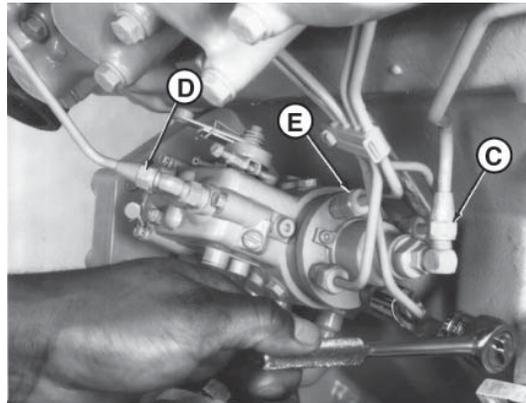
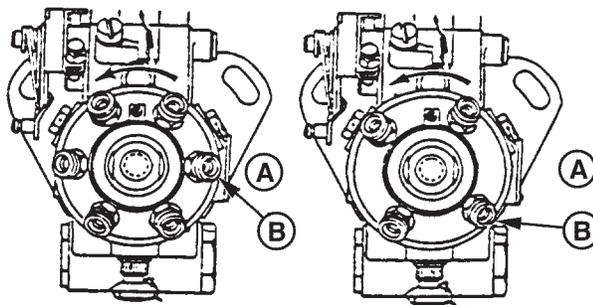

Figure 20 Reproduced by permission of Deere & Company, c2000. Deere & Company, All rights reserved.
Figure 21 Reproduced by permission of Deere & Company, c2000. Deere & Company, All rights reserved.
11. Connect injection pump pressure lines (Figure 20-E). Beginning with outlet (Figure 21-B) and continue around the pump head in counterclockwise direction, attaching lines in same order as engine firing (1-5-3-6-2-4 on 6-cylinder engines and 1-3-4-2 on 4-cylinder engines).
13. Connect fuel supply line (Figure 20-C) and fuel return line (Figure 20-D).